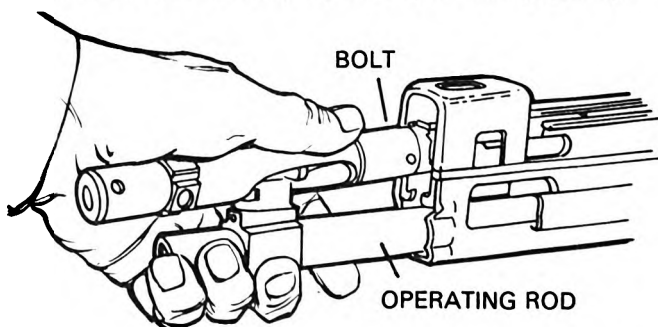

Figure 15. Inserting the operating group in the receiver.
(1) While holding the operating rod and bolt with one hand, with the other hand, push forward on the rear of the bolt, causing the bolt to rotate until the locking lugs are in a vertical position.
(2) With the cam roller up, push the operating rod and bolt into the receiver until the end of the operating rod is even with the rear of the receiver (figure 15).